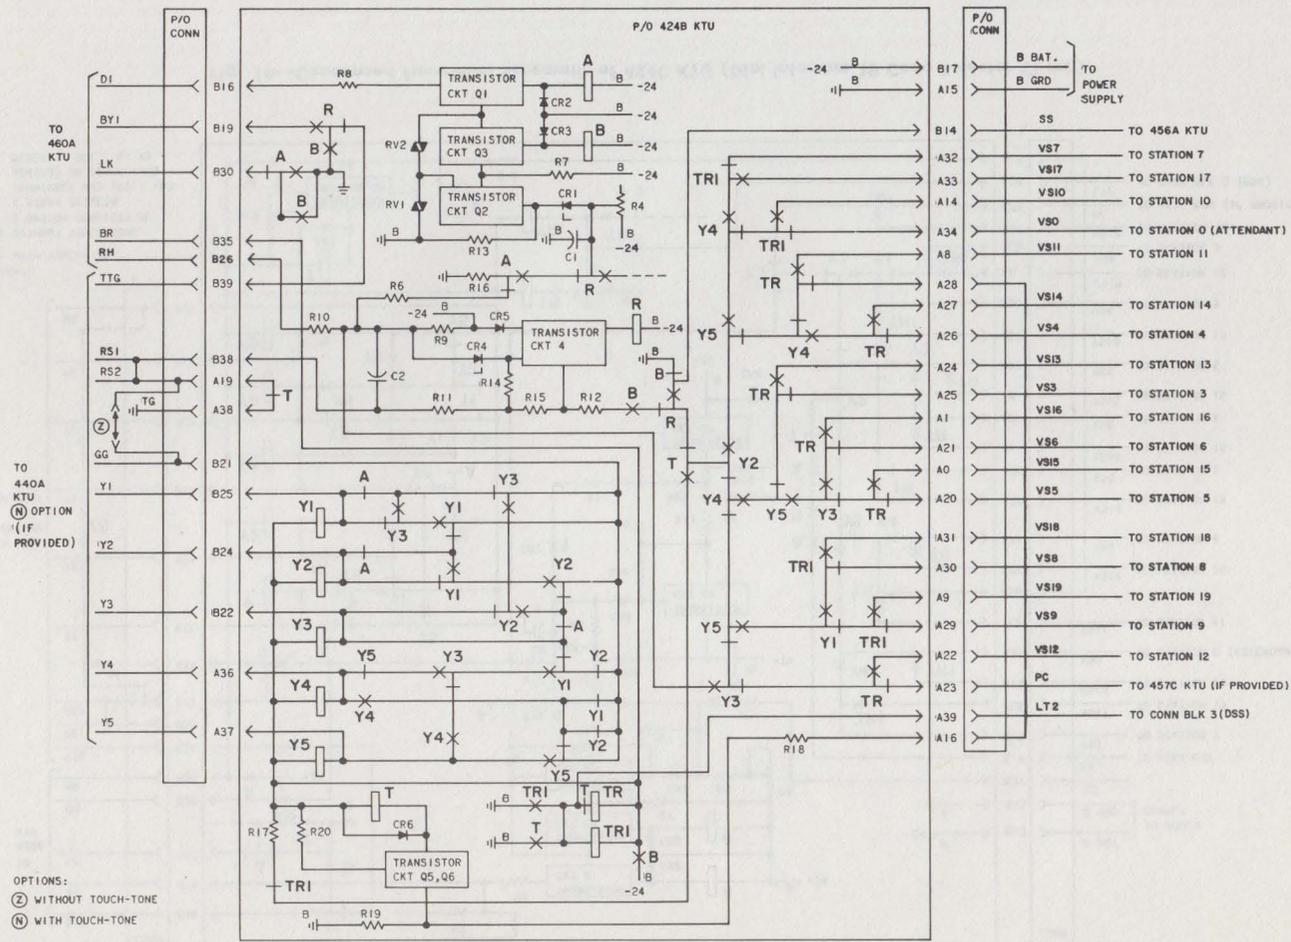
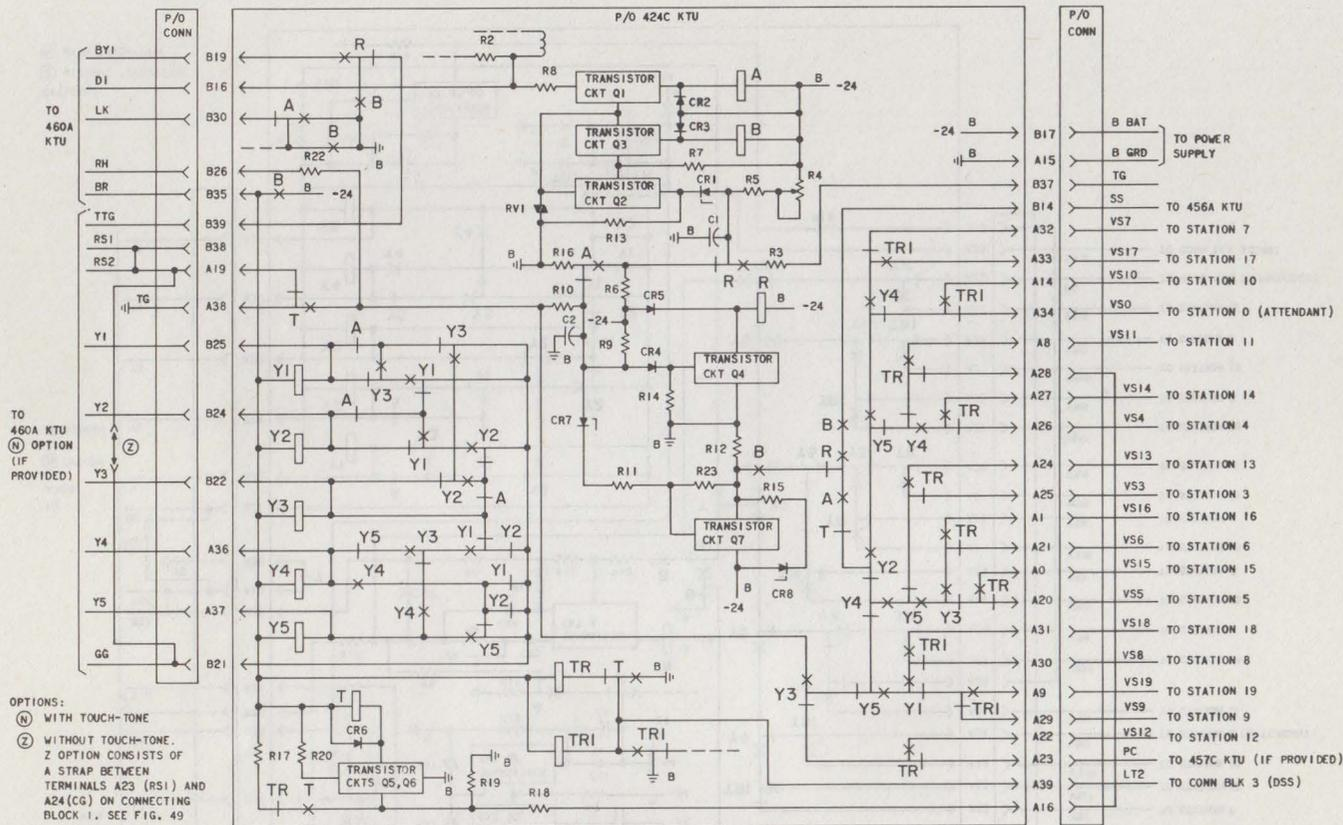

Fig. 13—Condensed Functional Schematic of 424B KTU (Dial Intercom 19-Code Selector Circuit)
Fig. 14—Condensed Functional Schematic of 424C KTU (Dial Intercom 19-Code Selector Circuit)
2.18 The 424B KTU (Fig. 13) or the 424C KTU (Fig. 14) is an 8-inch dial selective intercom unit. Additional information on the 424B/424C KTU may be found in CD- and SD-69567-01. In the 7A System, they provide the following: